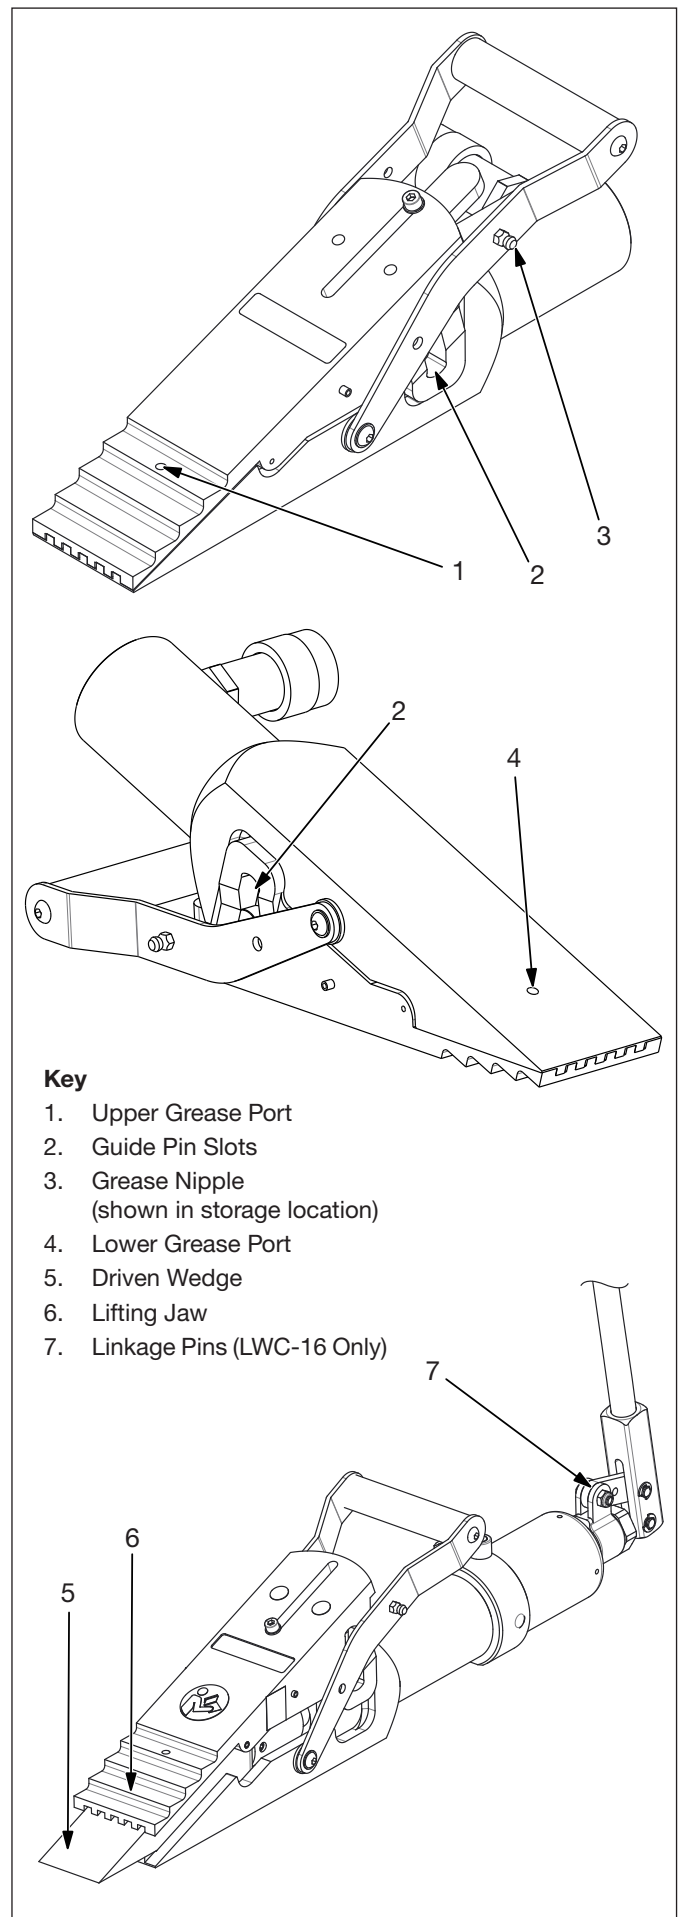

Figure 7, Lubrication, Models LW-16 and LWC-16
Use the following procedure to lubricate the lifting wedge. Refer to Figure 7, items 1, 3, 4, 5 and 6.
1. Remove any grit or dirt from the guide pin slots. Refer to Figure 7, item 2.
Periodically apply grease to the linkage pins so that they remain lubricated. Refer to Figure 7, item 7.